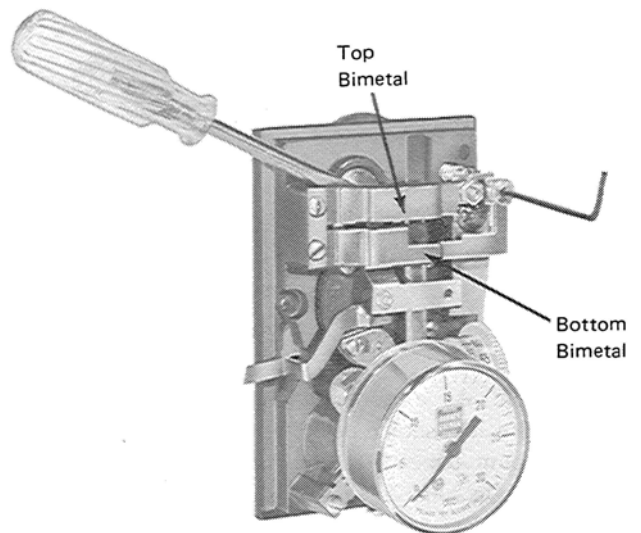

Figure-8
3. Attach the test gauge rubber seal to the boss, as shown. Using a rotary motion, push the gauge on as far as it will go (1/4-inch minimum). See Figure-8. The tubing will support the test gauge in a position where it will be easily read. The supply pressure to the thermostat should be 15 psig.
1. Insert the blade of the tool or screwdriver between the switchover plunger and the switchover lever shown in Figure-8. The top (18) bimetal should be approximately 1/32-inch off the lever and the bottom (19) bimetal should be in contact with the lever.